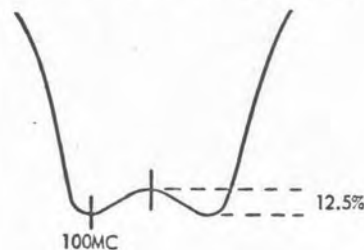

Figure 5-15
- n. Using the marker signal as reference, adjust C314 and C320 to obtain a symmetrical, double-tuned display on the oscilloscope. The 100-mc marker should appear at the low frequency peak as shown in figure 5-15.
- o. Adjust C318 to obtain the 12.5% center dip shown in figure 5-15.
- q. Repeat steps n and o as needed to obtain the display shown in figure 5-15.